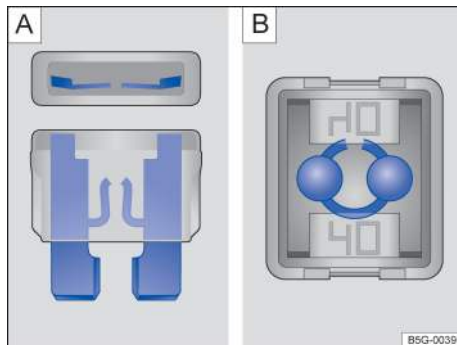

Fig. 158 Blown fuse: **A**: Blade fuse. **B**: JCASE® fuse.
- *For blade fuses (ATO®, MINI®)*: Remove the fuse and shine a flashlight on it. This makes it easier to tell if the fuse has blown. A blown blade fuse has metal strips that have burned through, which you can see through the transparent housing from above and from the side → fig. 158 A.
- *For cartridge fuses (JCASE®)*: Shine a flashlight on the fuse. This makes it easier to tell if the fuse has blown. A blown cartridge fuse has metal strips that have burned through, which you can see through the transparent housing from above → fig. 158 B.